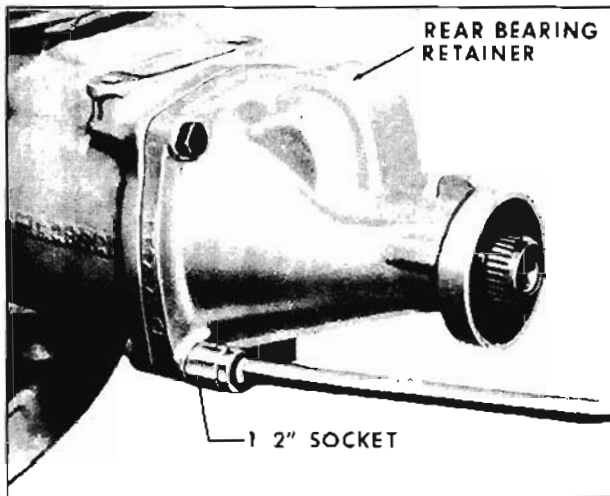

Fig. 6-454 Installing Rear Bearing Retainer
2. Install rear bearing retainer to case and install four retaining bolts, using a 9/16" socket. Torque bolts 25 to 35 ft. lbs. (Fig. 6-454)